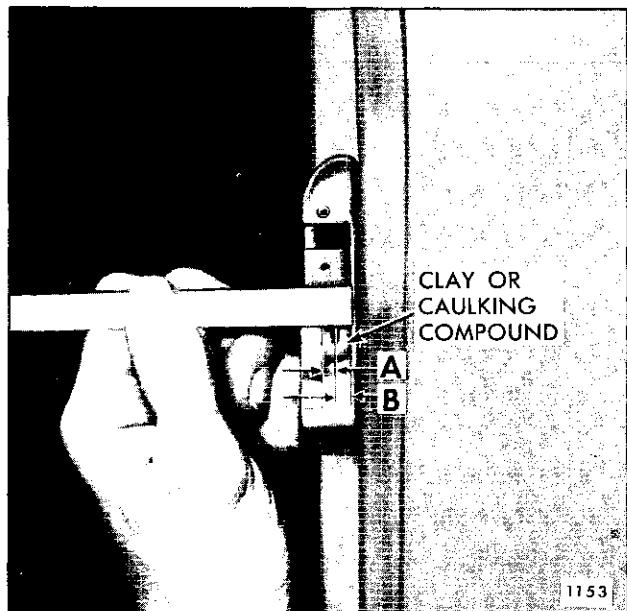

Fig. 9-19—Tail Gate Lock Striker Caulking Check
b. To determine if tail gate lock striker service spacers are required, apply modeling clay or body caulking compound in the lock striker notch where the lock extension engages and close tail gate to form a measurable impression in the clay or caulking compound, as shown in Figure 9-19.